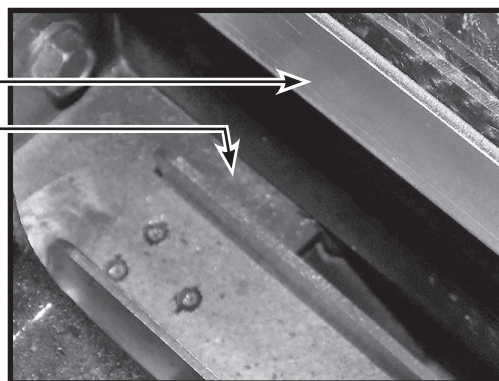

Figure 51: Glass door positioning.
1. Lower the glass door frame into place (Figure 51) making sure that the frame fits into the horizontal slot on the floor of the firebox.